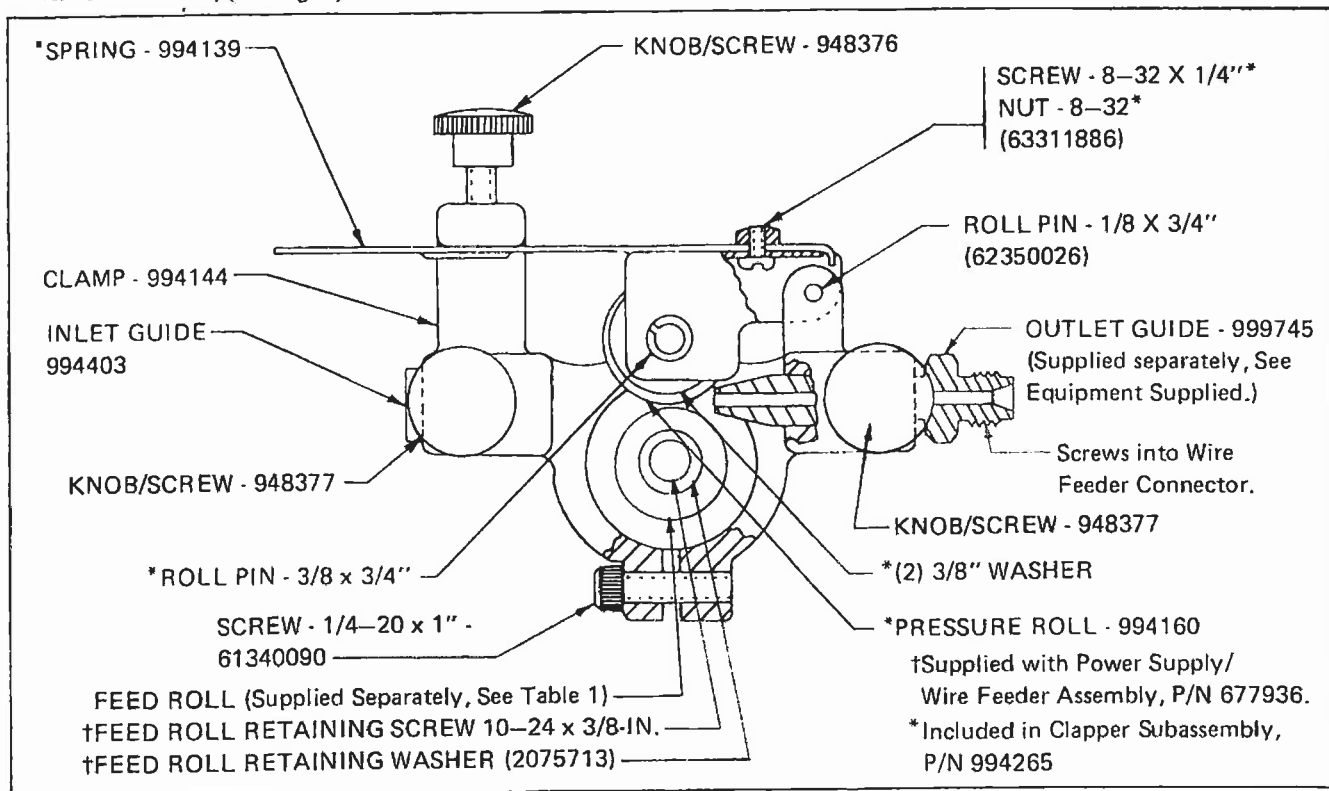

Fig. 5 - Pressure Roll and Clamp Assembly, P/N 994264, with Feed Roll Installed
Consists of a felt wiper (package of 10, P/N 598537) and a wiper holder (P/N 598764). An extra inlet/outlet guide P/N 05N56 (does not require an insert for this application) must also be ordered. To install the wiper holder, replace the inlet guide (P/N 994403, see Fig. 5) with P/N 05N56. The guide is installed with the point toward the feed roll. The wiper holder screws onto the inlet guide.
2. Release the clapper arm on the pressure roll and clamp assembly (refer to Fig. 5, press down, then pull outward on the flat spring, P/N 994139).
3. Remove the Feed Roll Retaining Screw P/N 678111 and the washer P/N 678134 from the output shaft of the Wire Feed Motor, (see Fig. 5).
2. Unscrew the pressure adjusting knob, P/N 948376, until the pressure leaf-spring is free (see Figs. 5 and 6). Raise the clapper by pressing the spring down, pulling it out from under the pressure adjusting knob, and lifting it up.
under the pressure adjusting knob (P/N 948376, see Fig. 5). The bottom of the screw must engage the indentation in the spring.
- a. Open the hinged door and raise the clapper arm (see Fig. 5) by pressing the spring down, then swinging it out. This will release the pressure roll so the wire will not feed when the torch switch is pressed.
- d. Replace the clapper; be sure the welding wire is in the groove of the feed roll and the bottom of the pressure adjusting screw (see Fig. 5) is engaged in the indentation in the leaf spring.